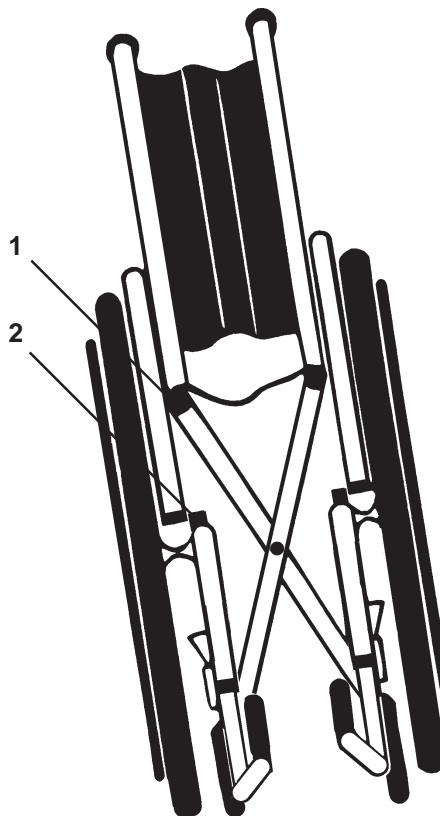

Fig. 1
Tilt the wheelchair towards you far enough to take the weight off the opposite wheel (Fig. 1). Push down with the palm of the hand on the seat rail (1) closest to you until the wheelchair has completely opened. Allow the chair to return to an upright position on all four wheels. Complete the opening procedure by now standing in front of the chair, placing the palms of your hands on both seat rails, and pressing down making sure the seat rail snaps into the rail saddles (2).